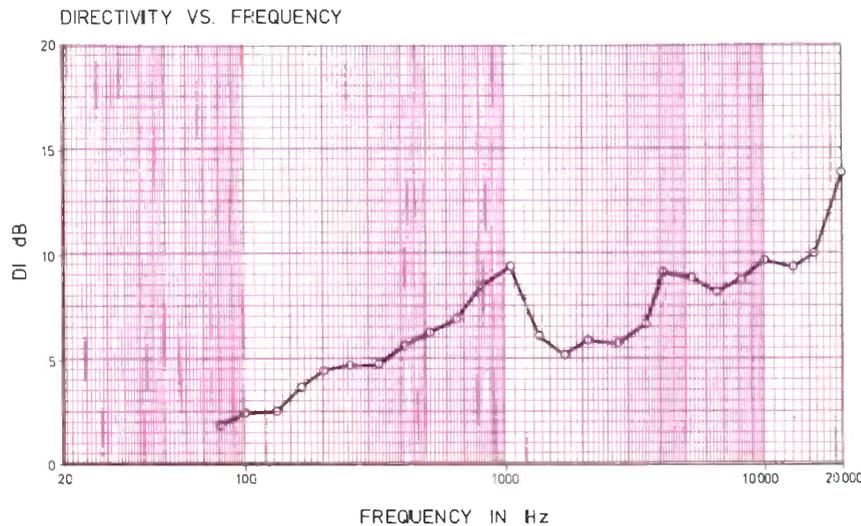

Figure 3. The directivity index (DI) of a test loudspeaker vs. frequency.
The term *power response* is used to describe the total power output of the loudspeaker with respect to frequency. Obviously, a loudspeaker that exhibits both flat on-axis frequency response and smooth angular control over the operating frequency range will, almost by definition, be putting out nearly flat power over the operating bandwidth. The measurement that defines this condition is the *directivity index (DI)* of the loudspeaker. The smoother the DI over the operating frequency range of the loudspeaker, the more likely it is that the on-axis and power responses will track each other. Figure 3 shows the DI for a 3-way bookshelf monitor. Note that from about 400Hz to 16kHz, the DI is contained within a window